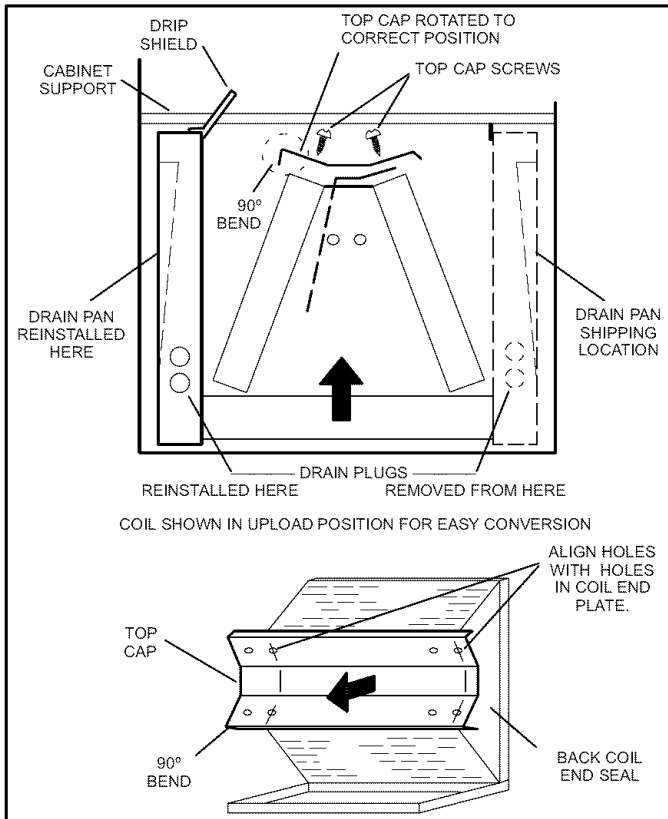

Figure 5. Field Modification (left-hand air discharge)
- Step 5. Remove screws from top cap. Remove horizontal drip shield screw located in the center of the back coil end seal as illustrated in figure 5 on page 6.
- Step 9. Rotate top cap 180° front to back and align with unused screw holes. Holes must align with front and back coil end plates. Note that top cap has a 45° bend on one side and 90° bend on the other. The 90° bend must be on the same side as the horizontal drain pan as illustrated in figure 5.